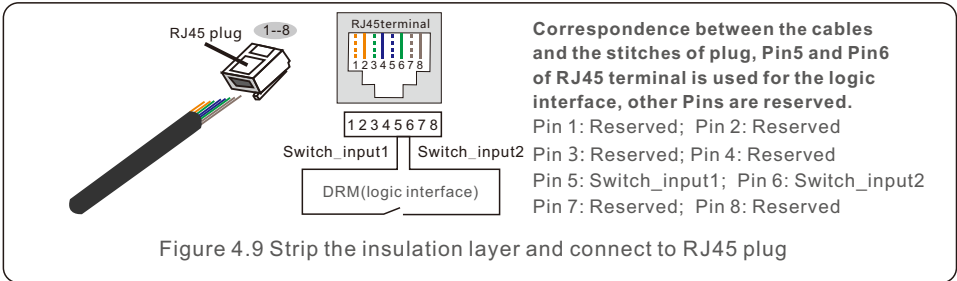

Figure 4.9 Strip the insulation layer and connect to RJ45 plug
- 2.Use the network wire stripper to strip the insulation layer of the communication cable. According to the standard line sequence of figure 4.9 connect the wire to the plug of RJ45, and then use a network cable crimping tool to make it tight.